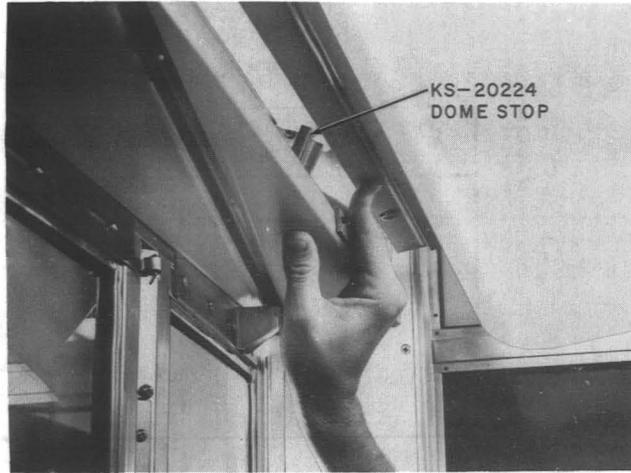

Fig. 5—Releasing Dome Stop
2.10 To lower the dome, push up on the dome stop as shown in Fig. 5. After dome is lowered, release the stop.